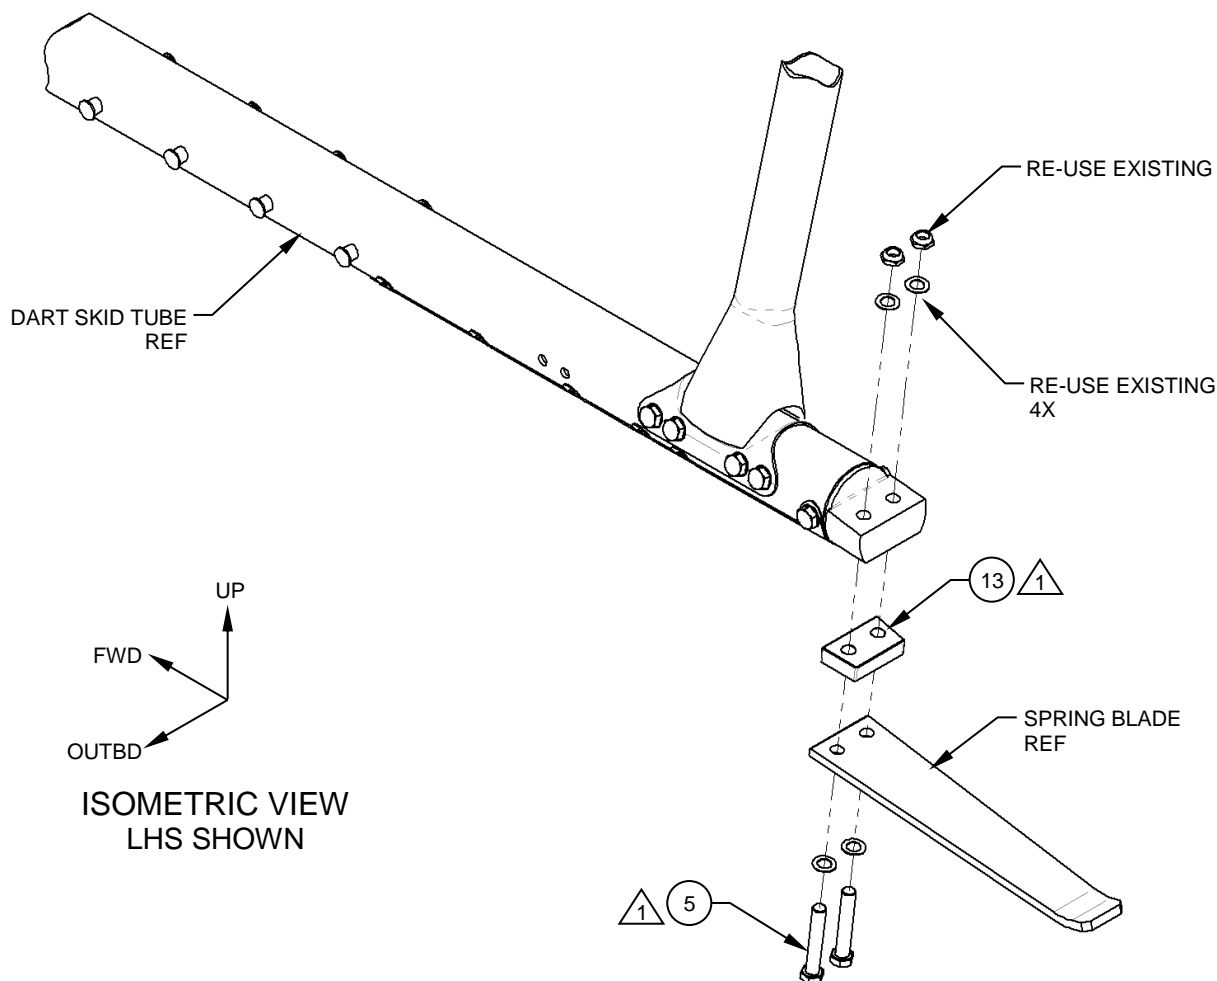

**Figure 2**
3. Remove the spring blade, Spacer, Detail (Item 13), the Nuts (Item 15) and the Bolt, Details (Item 14). Reference Figure 2.
2. Raise the aircraft and install the Spacer, Detail (Item 13) between the spring blade and its associated fitting using the provided Bolt, Details (Item 14) and the associated nuts (Item 15). Re-use the existing washers. Reference Figure 2.